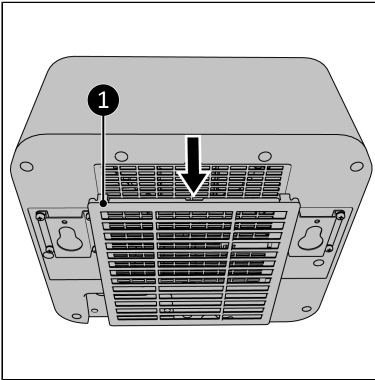
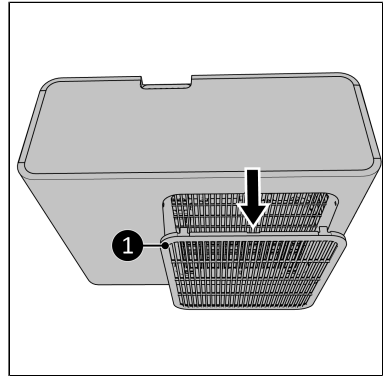

Figure 41.
Figure 42.
2. Remove the frame (Figure 41, pos. 1 for the indoor unit and Figure 42, pos. 1 for the outdoor unit) and remove the filter.